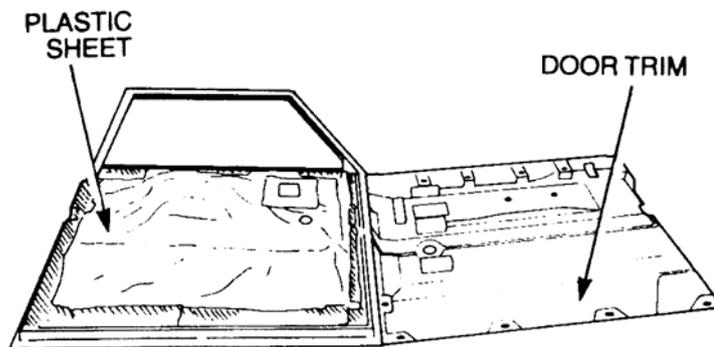

Figure 12 Door Trim Removal
- k. Remove the trim (refer Figure 12).